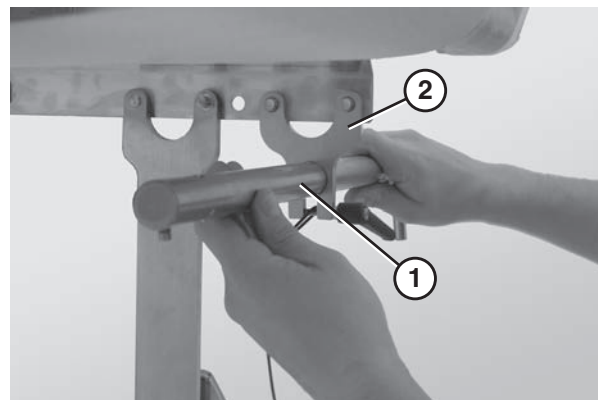

Figure 23
- Slide the notched end of the scraper shaft (**Figure 23, item 1**) through the adjustment plate (**Figure 23, item 2**).